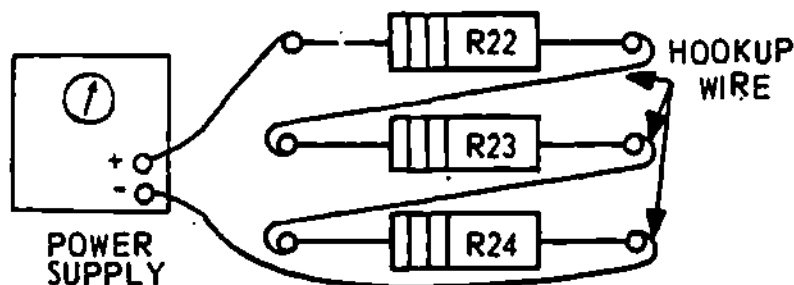

Figure 2-3
7. Connect the power supply to the resistive network as shown in figure 2-3.